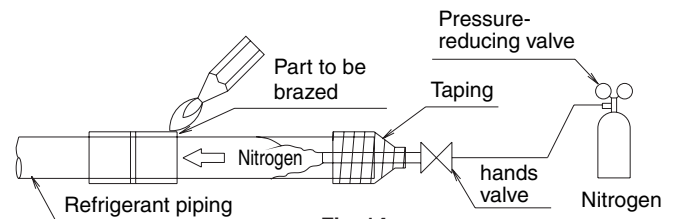

Fig. 14
- When brazing the refrigerant piping, perform nitrogen replacement first, or perform the brazing (note 2) while feeding nitrogen into the refrigerant piping (note 1), and finally connect the indoor unit using the flare connections. **(Refer to Fig. 14)**